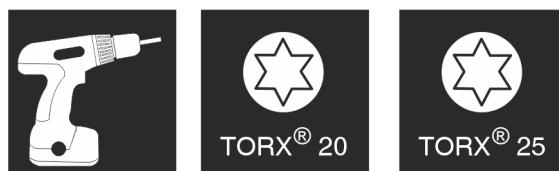

Fig. 20
1. Have your tools ready. *Fig. 20 ()*